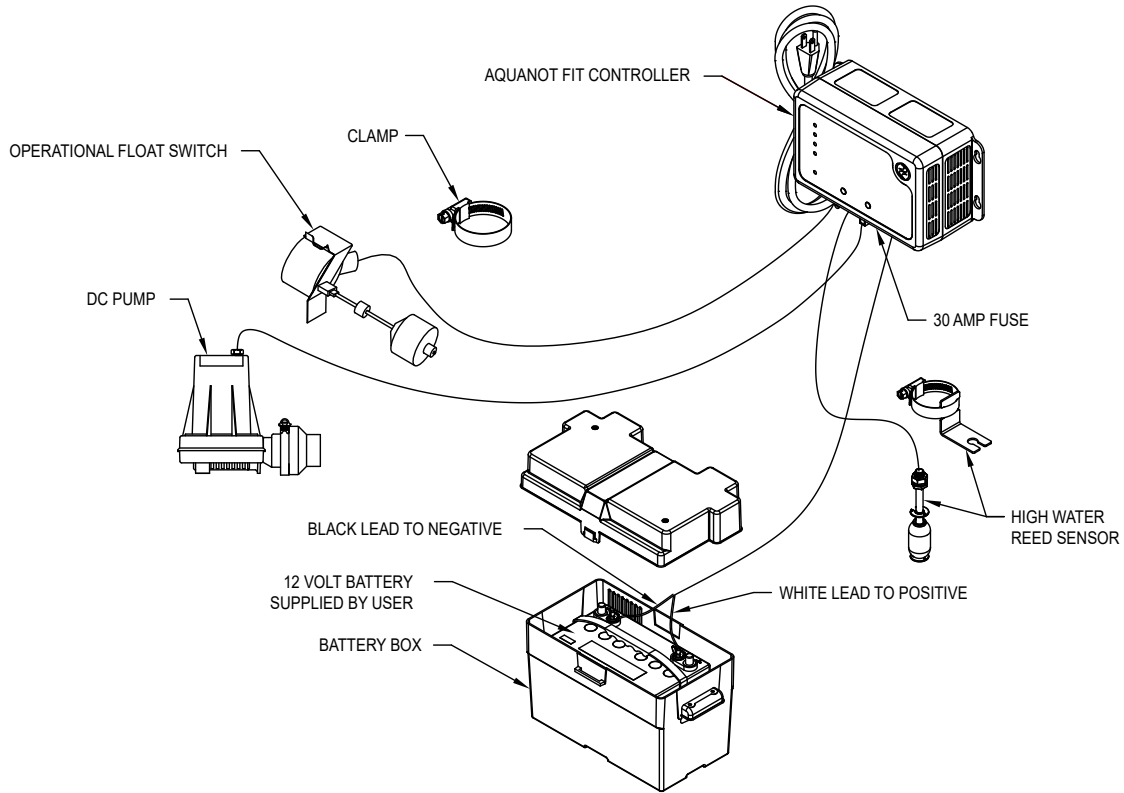

FIGURE 3
5. Install the Fit controller (see Figure 3) by using the anchors provided. For best cooling, install wall mount configuration. The controller should be located at least 3' (1 m) above the sump.